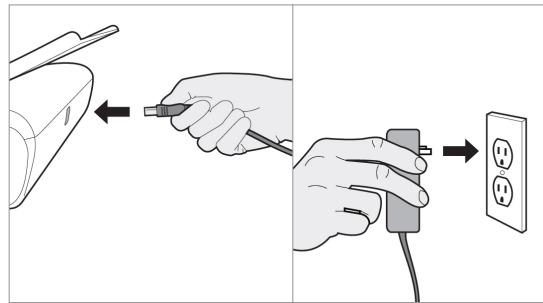

Figure 10 Connect Power Supply
3. Connect the Base Station to a power outlet for charging (see Figure 10).